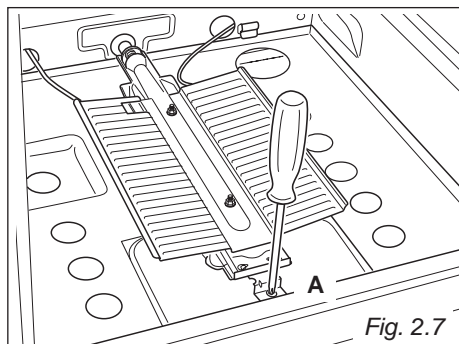

Fig. 2.7
- Unscrew and remove the burner securing screw “A” (fig. 2.7).